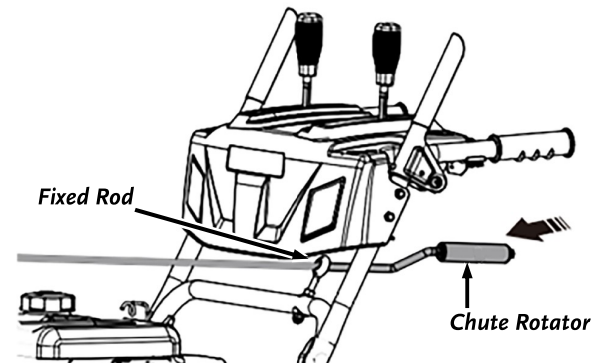

Figure 16
1. Insert Chute Rotator through Rubber Bushing of the Fixed Rod (**Figure 16**).